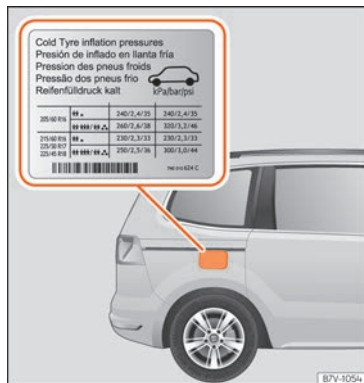

Fig. 294 Position of tyre pressure specification plate
- Adjust tyre pressure to the load being carried by the vehicle » **Fig. 294**.
» **Fig. 294** is either on the driver door strut or inside the fuel tank flap.
» **Fig. 294**.
- The driver is responsible for ensuring that all of the vehicle tyres are correctly inflated to the right pressure. The recommended tyre pressure is indicated on the label » **Fig. 294**.
- When the tyres are cold, tyre pressure should be that indicated on the label » **Fig. 294**.